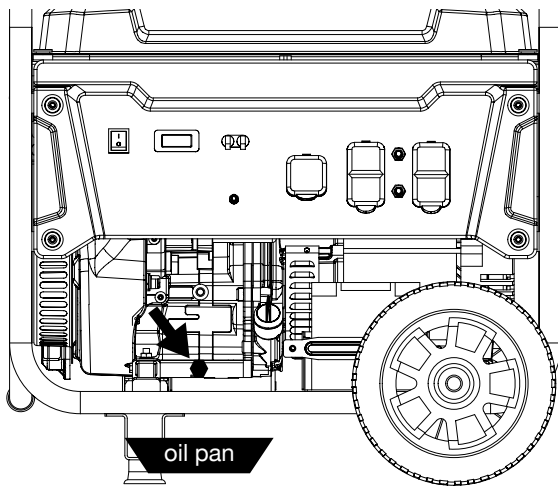

Figure 21 - Oil Drain Plug
4. Place oil pan (or suitable container) under the oil drain plug (see Figure 21).
6. Remove the oil drain plug (see Figure 21). Once removed, place the oil drain plug on a clean surface.